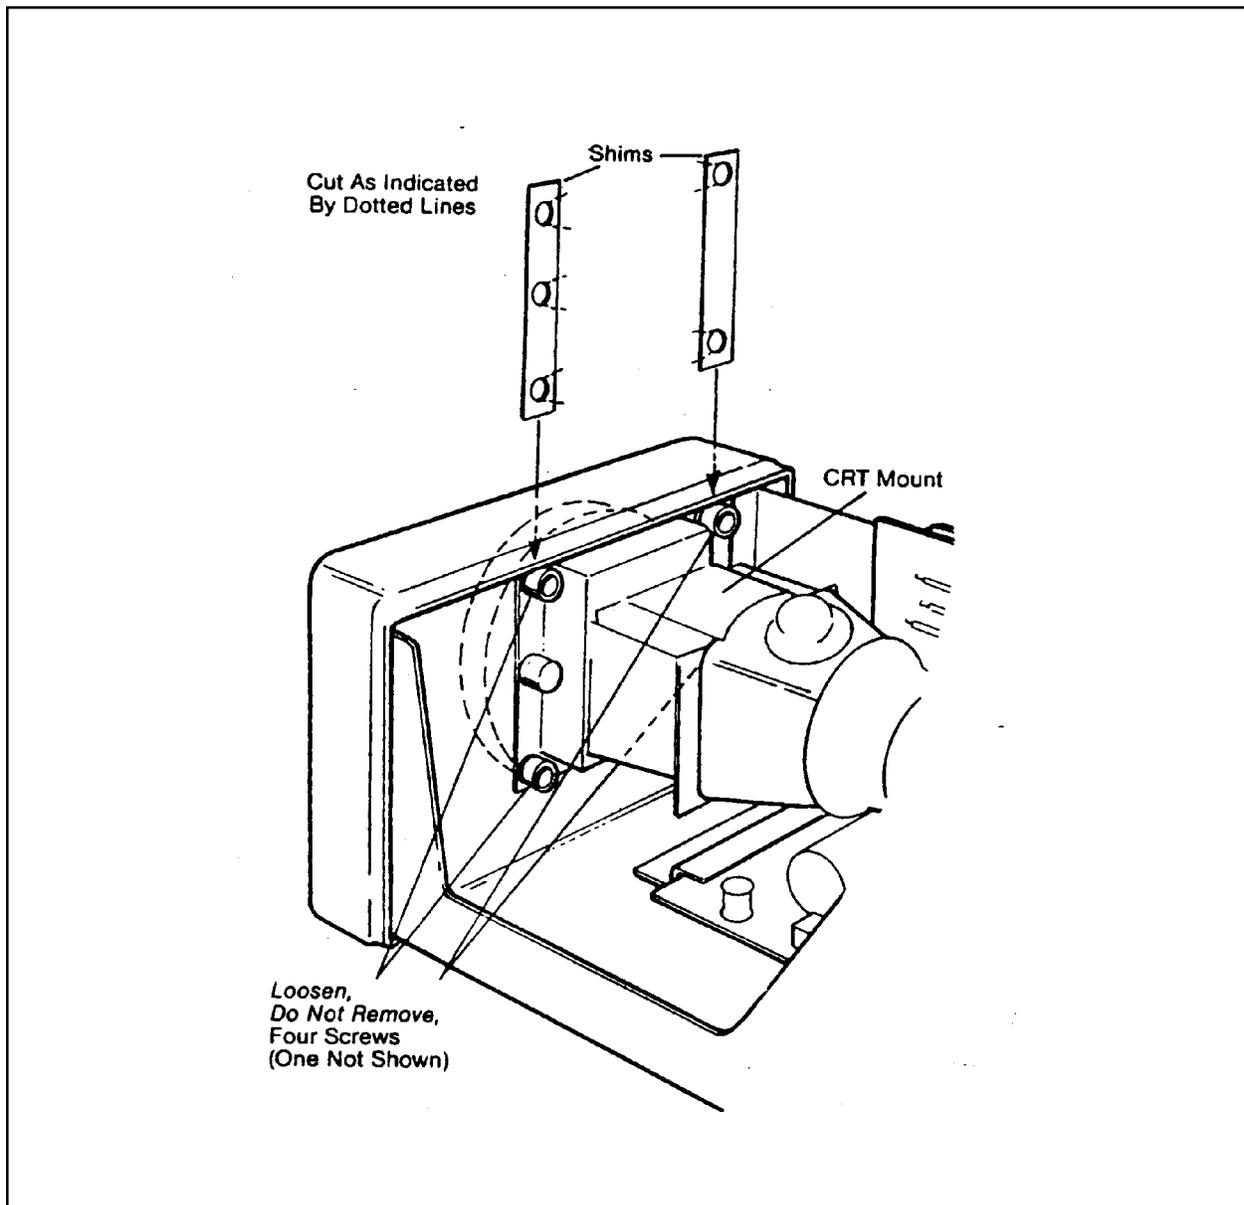

Figure 5-11. Installing Shims
7. To install the shims, loosen the four screws which secure the CRT mount to the front housing of the Digital Palette (Figure 5-11).
8. Obtain the proper size shims and cut them as shown in Figure 5-11. This will allow them to be pushed under the mount without having to completely remove the screws.